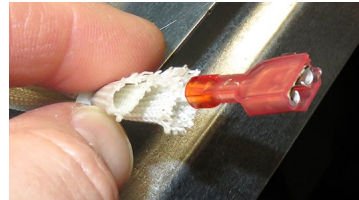

Figure 13
17. Attach the included 3/16" terminals to the sense wires (see Figure 13).